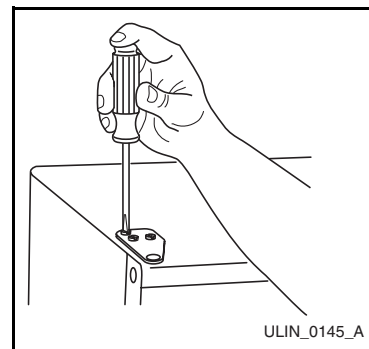

Figure 29
12. Fasten upper hinge to unit (three screws) **(Figure 29)**. Partially tighten screws.